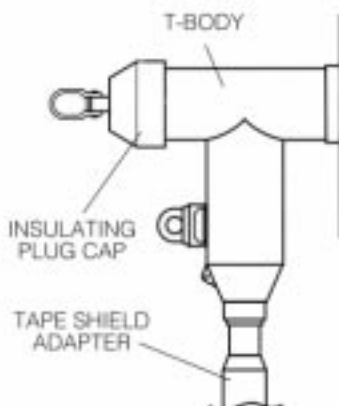

Figure 19.
- Clean and lubricate inner surface of insulating plug cap with lubricant supplied. (Refer to Figure 19.)